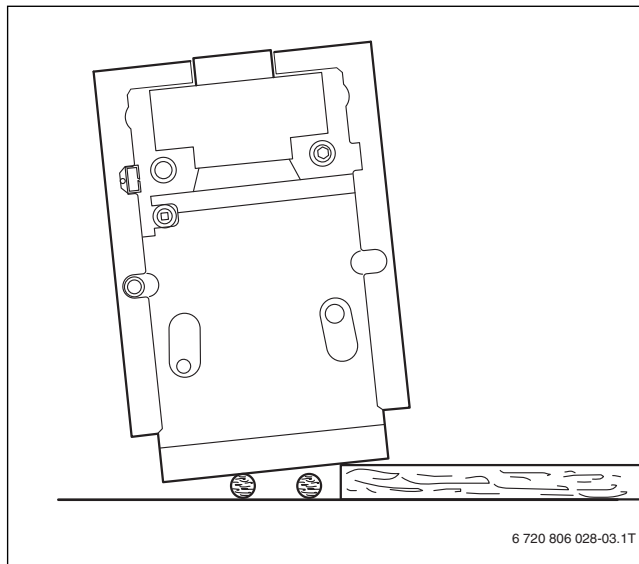

Fig. 5 Transporting the boiler on rollers
- Place a pipe under the boiler and roll it on additional pipes to the installation location (→ Fig. 5).